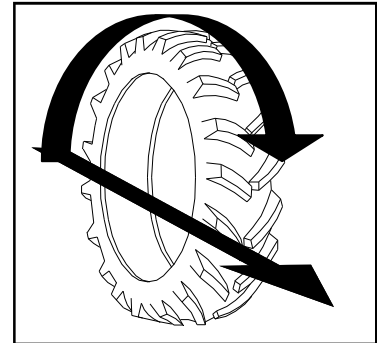

FIG 6.18-1
**WHEEL BOLTS**– If you do not have the proper equipment to mount a tire, let your local qualified tire sales/service dealer mount the tire for you. The tire should be mounted on the rim according to figure 6.18-1 for best traction and tread cleaning action. To install wheel and tire assembly on the wheel hub lubricate studs with an anti-seize grease. Align the wheel bolt holes with the wheel hub studs and mount the wheel on the hub.